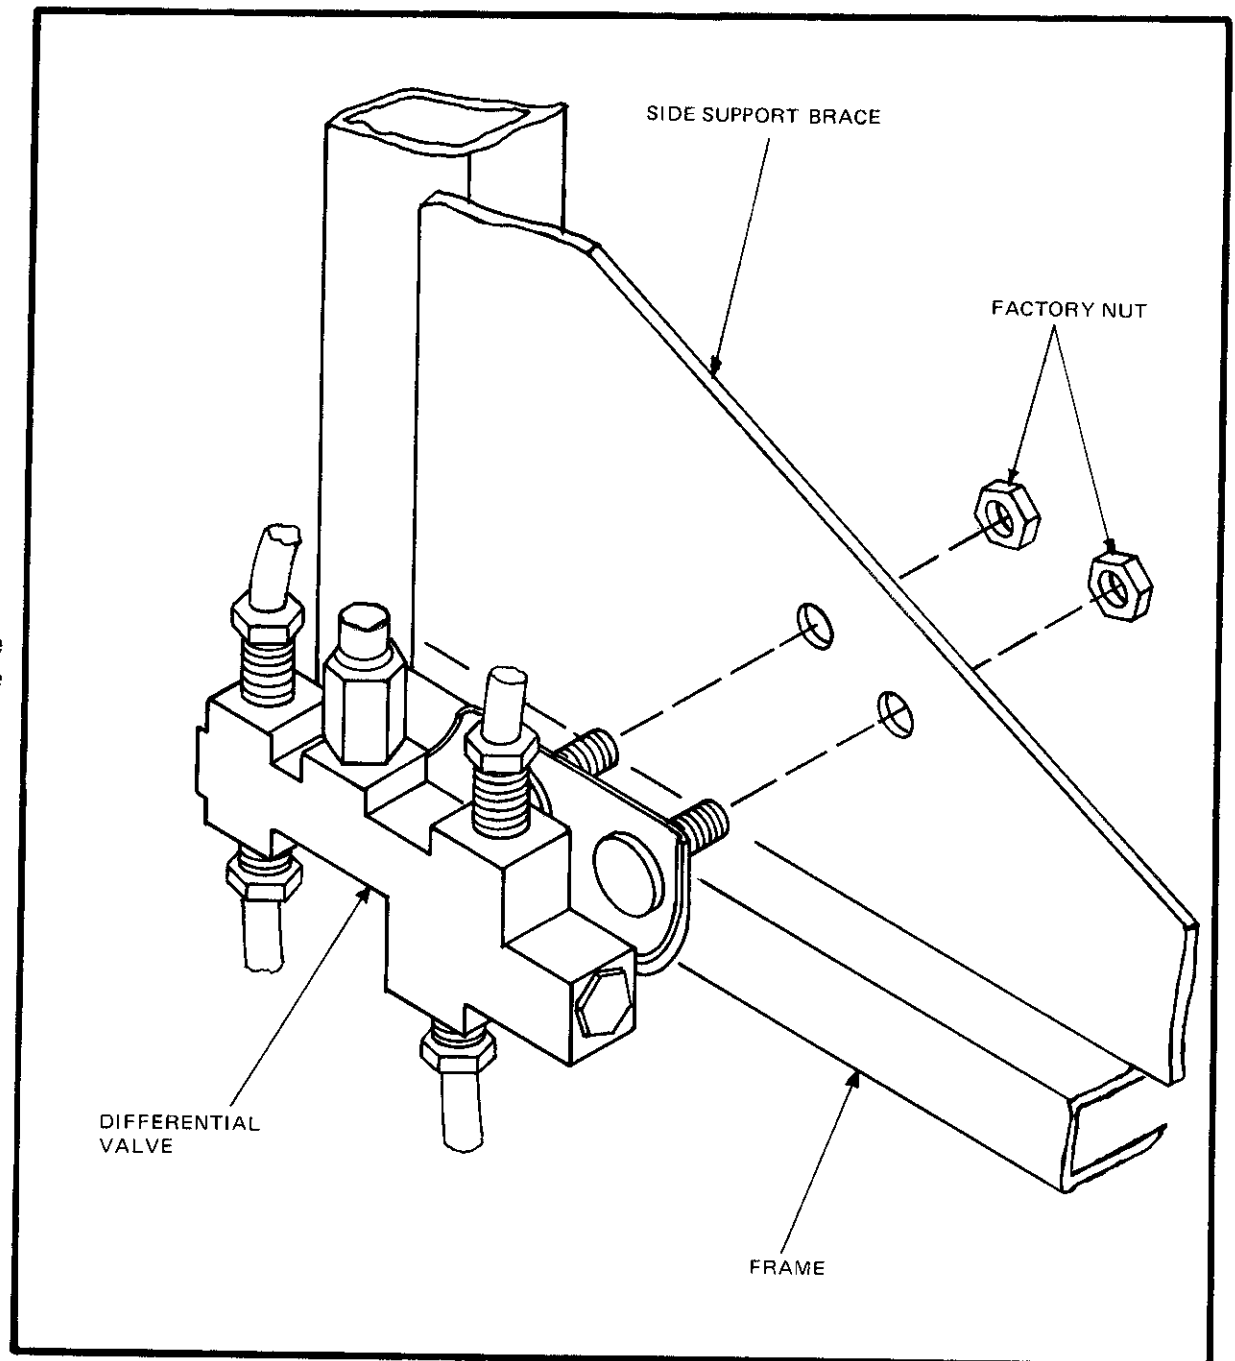

Figure 11
- Measure 3" up from the forward frame member on the left side support brace and 1/2" from the edge. Drill 2 holes, 3/8", and attach brake differential valve to brace using original nuts removed from the Ford. (Figure 11)